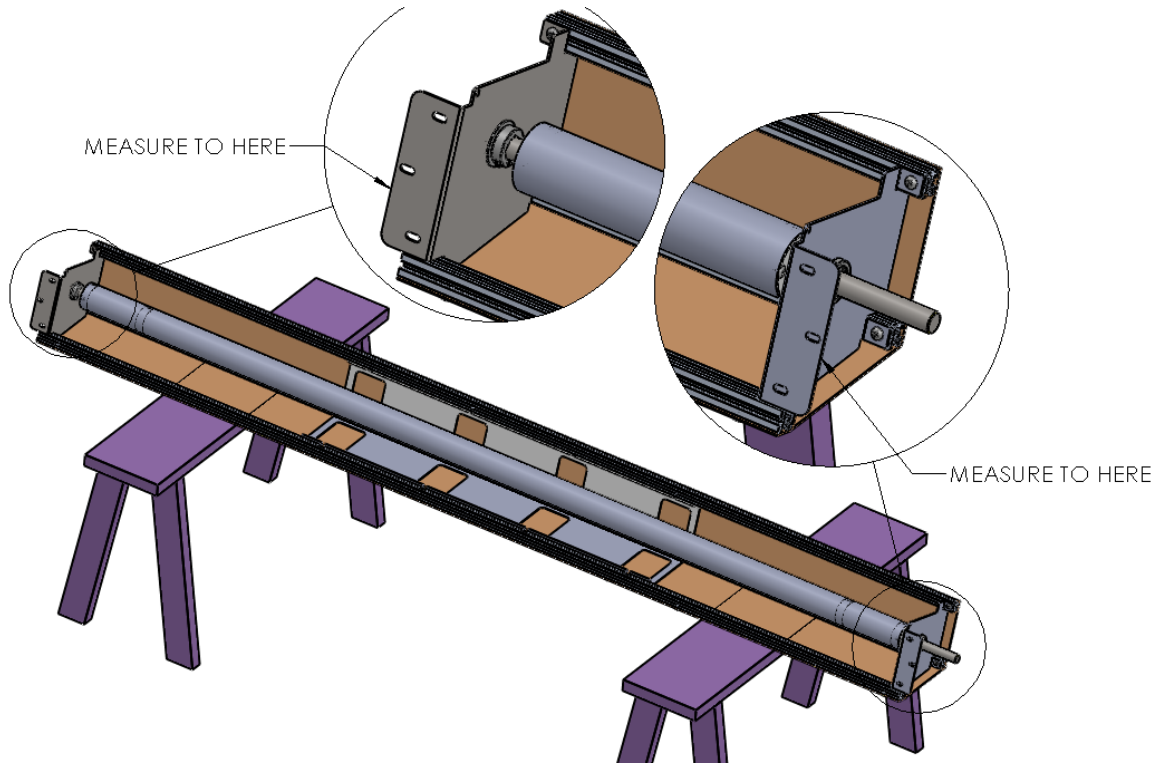

Figure 2 MEASURE DOOR WIDTH
2. Place the Door roll Header Assembly across two saw horses, or another safe and level work surface, and rotate the roll assembly frame so that the Header Bracket mount flanges are facing upward. (Figure 2 MEASURE DOOR WIDTH).
3. Measure the total width of the whole roll assembly from outermost edge of one mounting flange to the outermost edge of the opposite side. (Figure 2 MEASURE DOOR WIDTH)